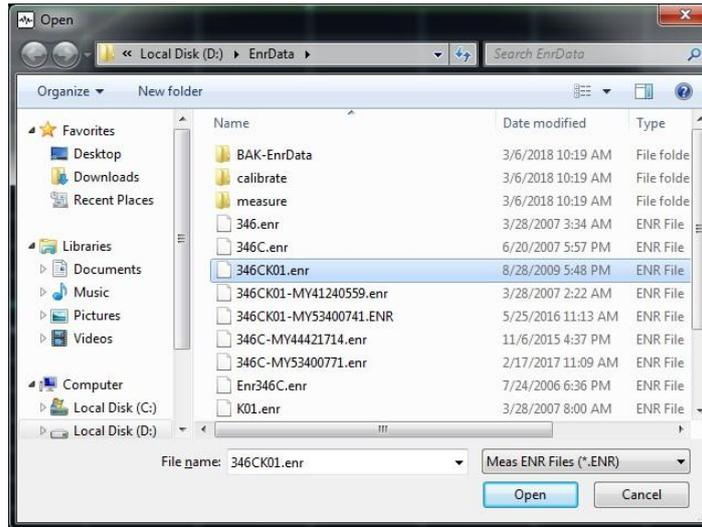

Fig. 3.19 File loading display
- Step 2.** Press the [Load...] menu key. "Open" dialog box appears, as shown in Fig. 3.19.